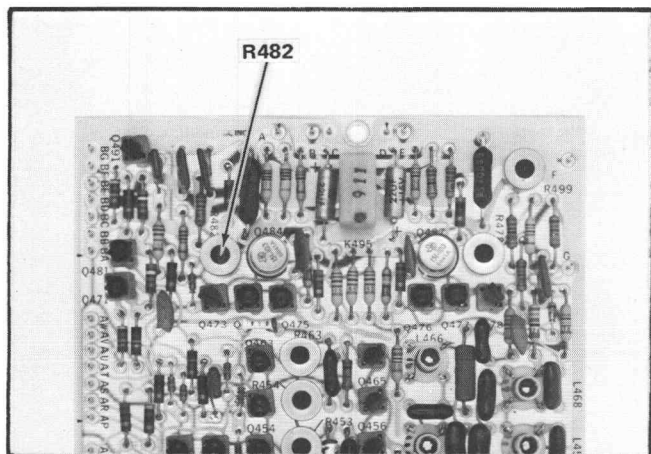

Fig. 5-22. Bar Drive and Video Out board adjustment location.
k. ADJUST—R482 (see Fig. 5-22) until the top of the bottom display just meets with the bottom of the top display.